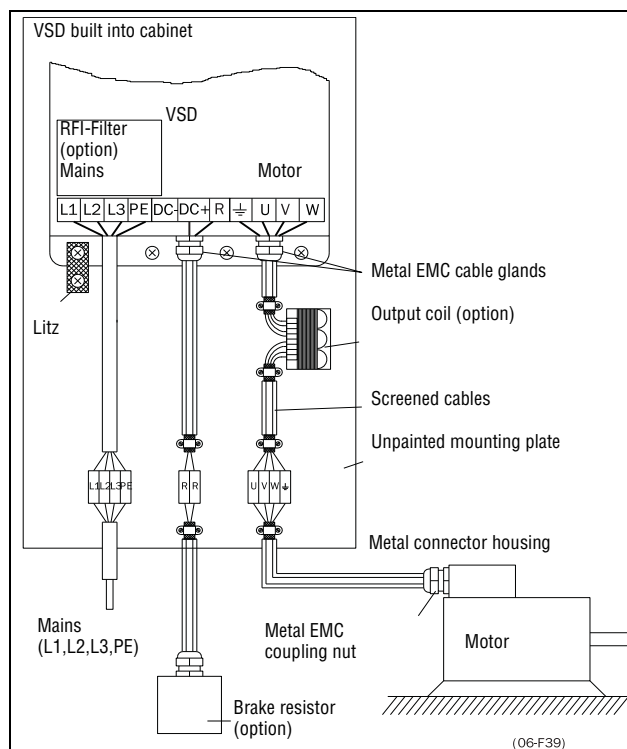

Fig. 25 Variable speed drive in a cabinet on a mounting plate
- The litz ground connection see fig. 25, is only necessary if the mounting plate is painted. All the variable speed drives have an unpainted back side and are therefore suitable for mounting on an unpainted mounting plate.
If the motor cables are to be interrupted by maintenance switches, output coils, etc., it is necessary that the screening is continued by using metal housing, metal mounting plates, etc. as shown in the Fig. 25.
- If the variable speed drive is mounted in a standard cabinet, the internal wiring must comply with the EMC standard. Fig. 25 shows an example of a VSD built into a cabinet.